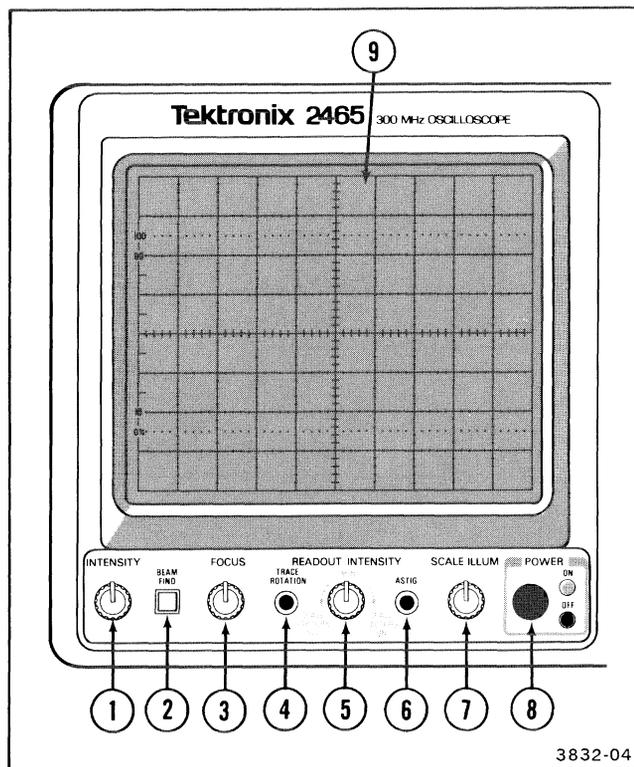

Figure 2-2. Power and display controls.
Refer to Figure 2-2 for location of items 1 through 9.